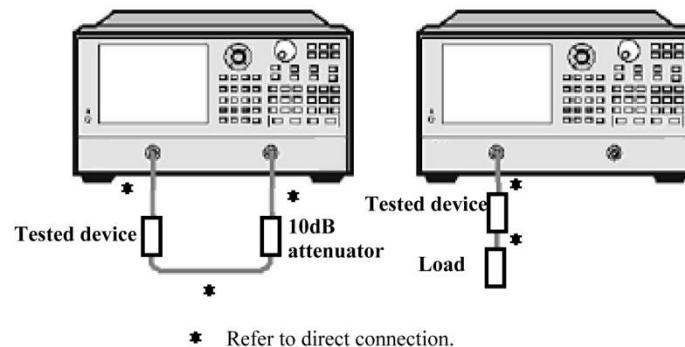

Fig. 8.10 Connection in Impedance Measurement
- 3) Connector shown in Fig. 8.10 for S11 or S22 measurement.